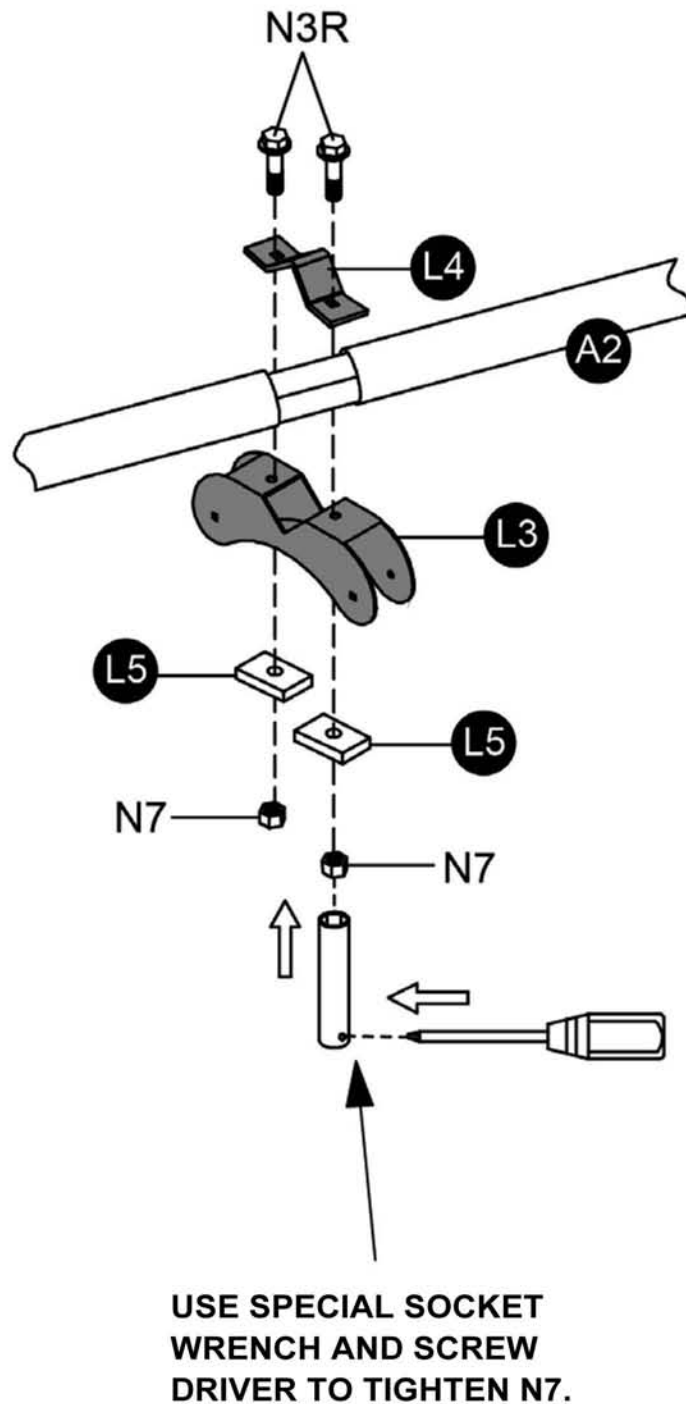

FIGURE 12
- Attach L4 and L3 to A2 using N3R, L5 and N7 as shown in FIGURE 12. Use special socket wrench and screw-driver to tighten N3R and N7.